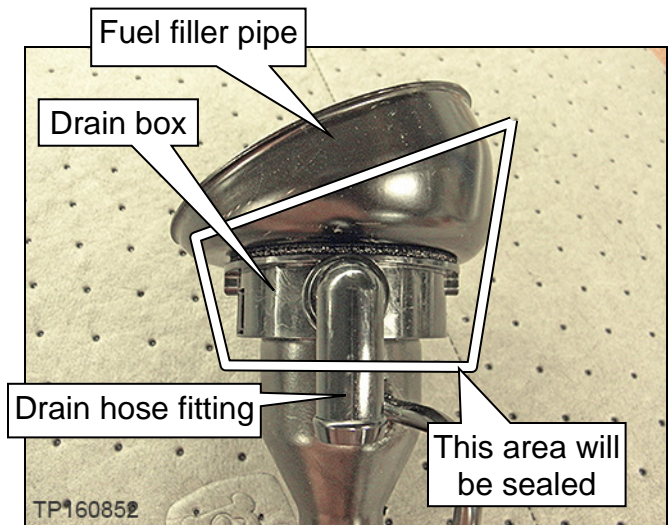

Figure 1
- Refer to the drain box on page 3, Figure 1.